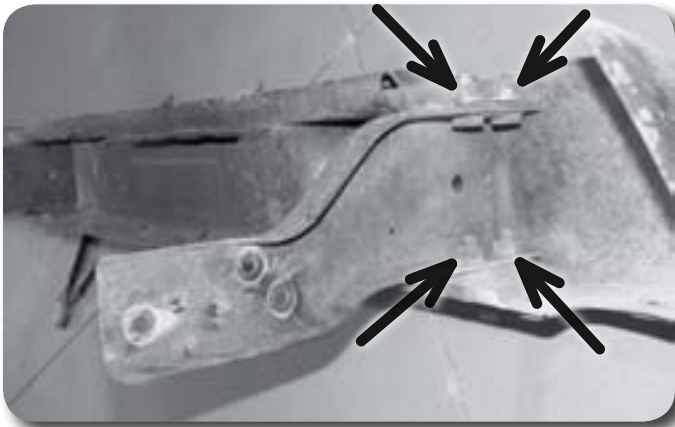

Figure 30
46. Remove the eight bolts and the bumper brackets from the rear bumper **Figure 30**. Save bolts.